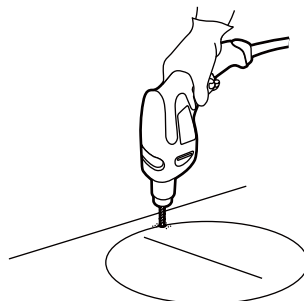

Fig. 17
- > Use a suitable drill to drill a hole of at least 12 mm on the cutting line (Fig. 17).